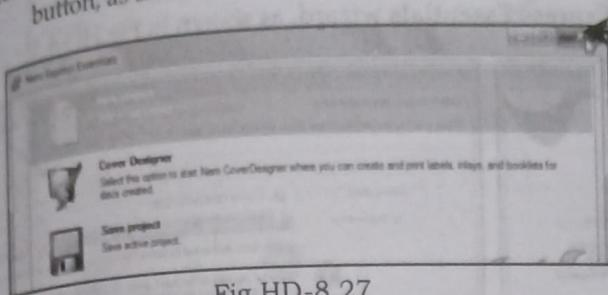
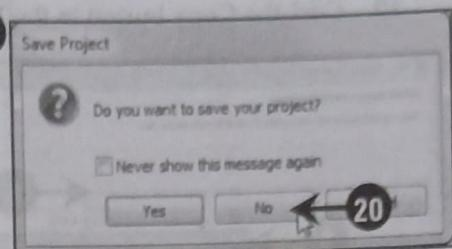

Fig.HD-8.27
Fig.HD-8.28
Once you have successfully completed the burning process with the Nero Express Essentials wizard, the last window of the Nero Express Essentials wizard displays the New Project, Cover Design, and Save project options (Fig.HD-8.27). You can use one of these options to continue with Nero. However, you can also exit from Nero by clicking the close button.
- Click the Close (X) button to close the Nero Express Essentials wizard (Fig.HD-8.27). The Save Project message box appears (Fig.HD-8.28).
20. Click the desired button in the Save Project message box. In our case, we have selected the No button, as shown in Fig.HD-8.28: